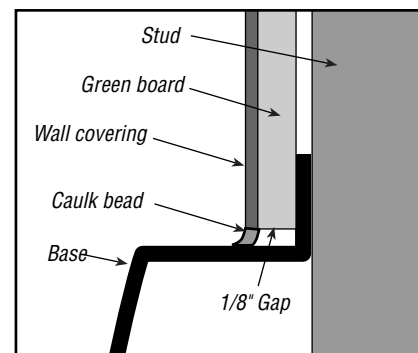

Figure 3
- 3 If you are installing one of our matching wall sets, proceed with the "Wall Set Installation" instructions that follow. If you are installing greenboard with another covering, leave a gap of 1/8" between the base ledge and the wall material to help reduce the chance of water getting into the wall board. When wall is finished, seal this gap with latex/acrylic caulk (*Figure 3*).